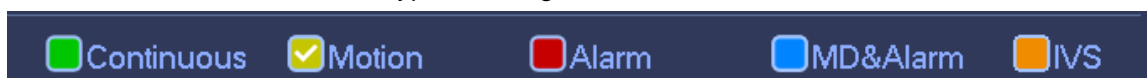

Figure 4-38
- Step 4 Check the box to set alarm type. See Figure 4-38.